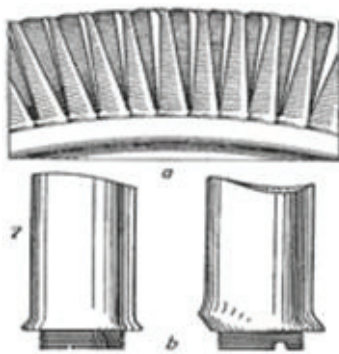

Fig. 2
b) What do you know about the device in Figure 2?